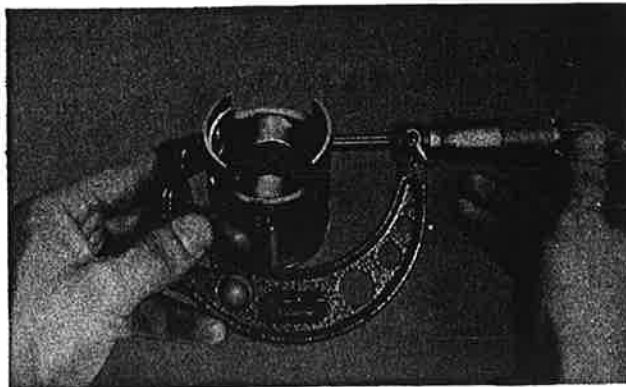

Fig. 3-3-17
6. Using an outside micrometer, measure piston diameter. The piston is cam-ground and tapered. The only measuring point is at right angles to the piston pin holes about 1/2" from bottom of piston. Compare piston diameter to cylinder bore measurements. Piston maximum diameter subtracted from minimum cylinder diameter gives piston clearance. If beyond tolerance, hone cylinder to tolerance or re-bore to next over-size and fit over-size piston. (Fig. 3-3-17)